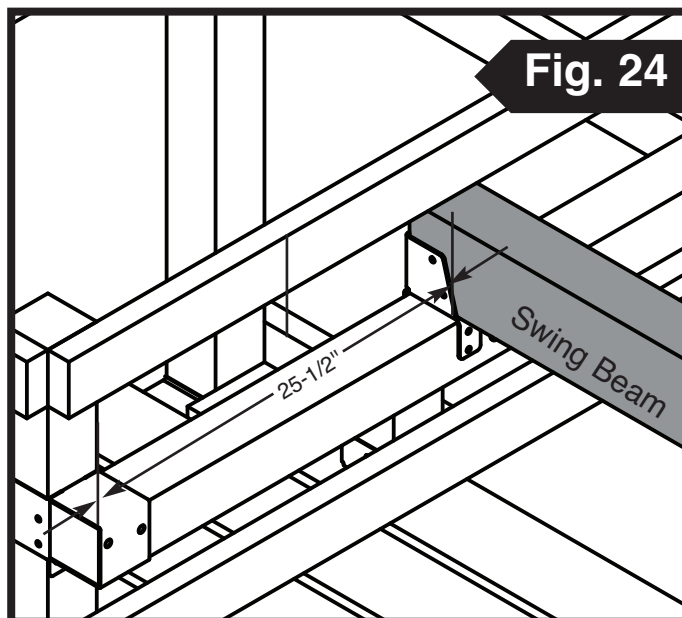

Fig. 24
1. Position Split-Brackets on 4" x 4" x 55" (**Fig 24**).
2. With the help of others, lift A-Frame and Swing Beam Assembly and center onto unit as shown in (**Fig. 24**)